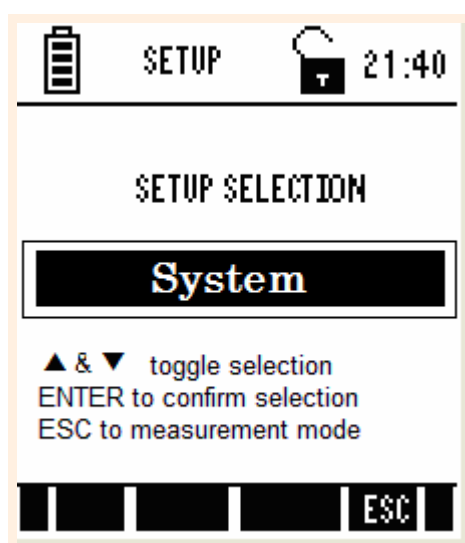

Figure 44: Setup Selection screen
8. Press **Enter** key to launch Setup Selection Screen. (See Figure 44)